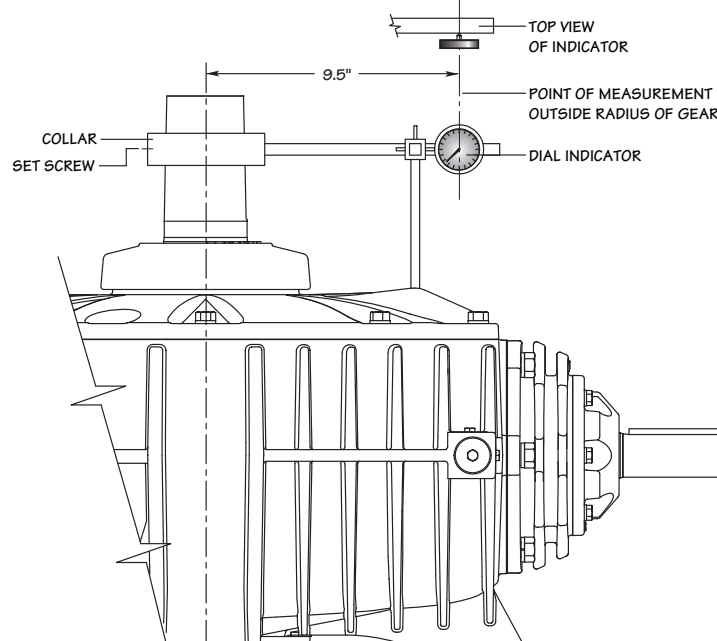

FIGURE 5 Gear Backlash Measurement
1. With the "X" marked tooth on the pinion gear engaged between the two "X" marked teeth on the ring gear, check the backlash with a dial indicator as shown in **Figure 5**. Lock the pinion shaft against rotation. The amount of movement of the fan shaft, measured at a distance equal to the outside radius (9.5") of the ring gear is the backlash. Obtain backlash setting by adjusting ring gear axially by removing or adding shims (305) at bottom bearing cap.